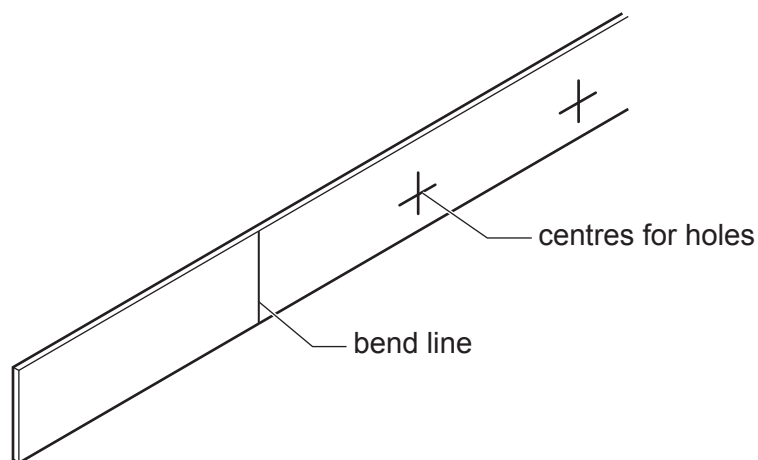

Fig. 13.4
- (d) The support is made from 1.5 mm thick brass strip. Fig. 13.4 shows part of the support marked out ready for the holes to be drilled and the strip to be bent to shape.